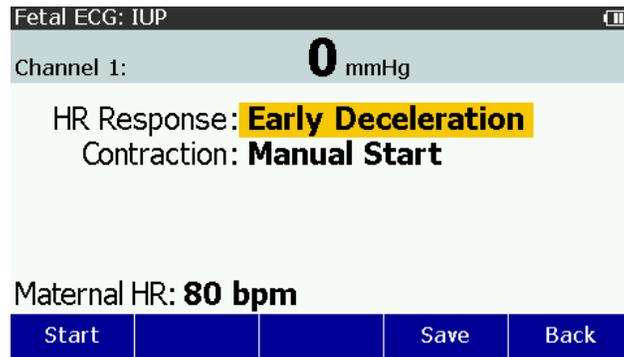

Figure 14. Intrauterine Pressure Contractions Screen
To simulate intrauterine pressure contractions, push the **IUP Contraction** softkey to show the Fetal ECG: IUP screen in the display. See Figure 14.
4. Push the softkey labeled **IUP Contraction** to show the Fetal ECG: IUP screen in the display. See Figure 14.